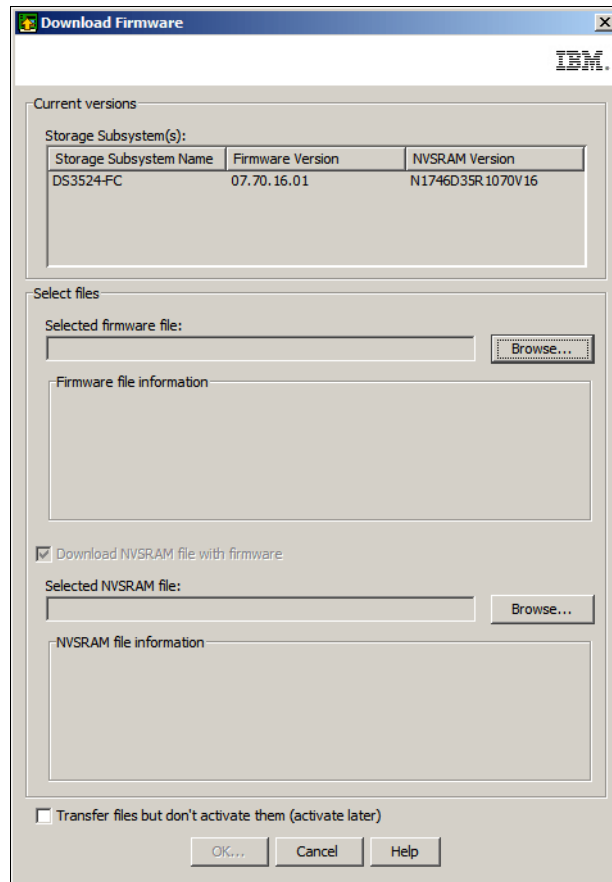

Figure 14-40 Download Firmware window
4. Click the **Firmware** button to open the **Download Firmware** window as shown in Figure 14-40 on page 358.